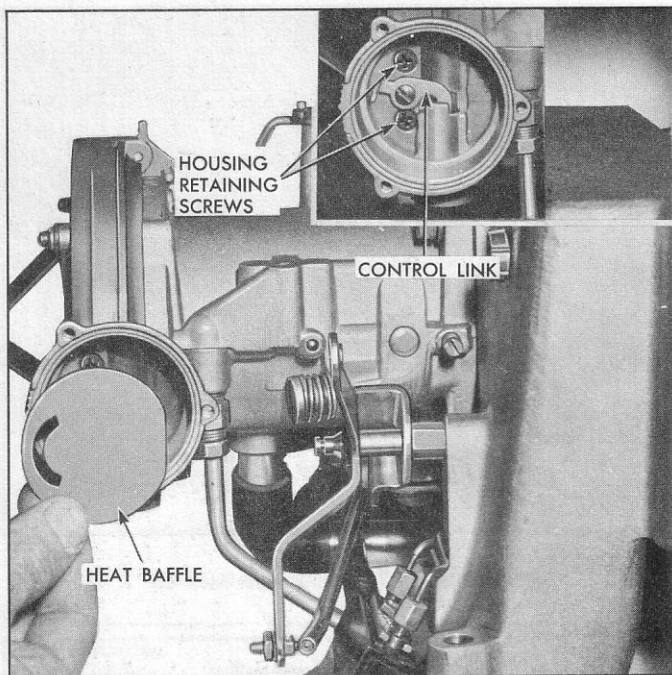

Fig. 67—Removing Heat Baffle and Control Link
3. Remove electric coil and cover as outlined above. Remove heat baffle and control link. Remove 2 choke housing retaining screws, remove choke housing (fig. 67).